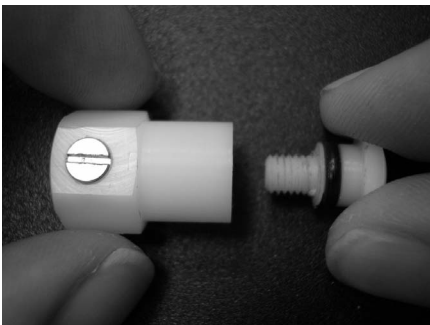

Fig 2.1
- Assemble the overt nozzle and fit to Sentry 500 (fig 2.1, 2.2). Tighten if necessary to ensure a snug fit.